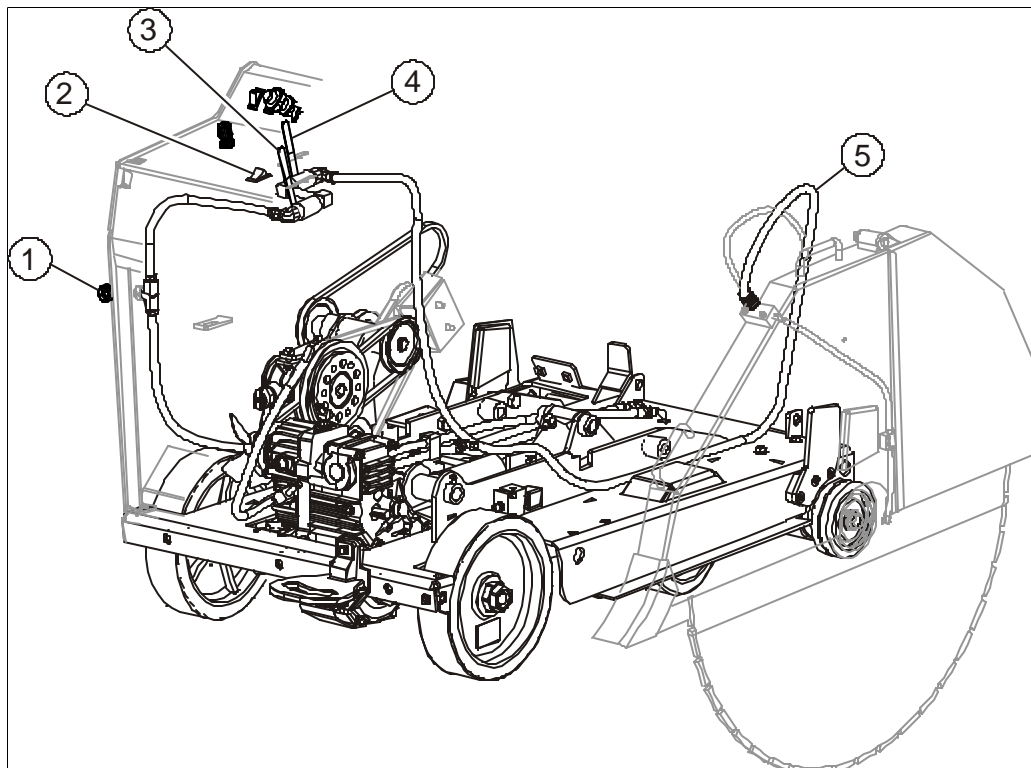

Fig. 10 — The Water Supply System
4. If an air compressor is available, blow out the system by applying compressed air to the Water Inlet (see Fig. 10).